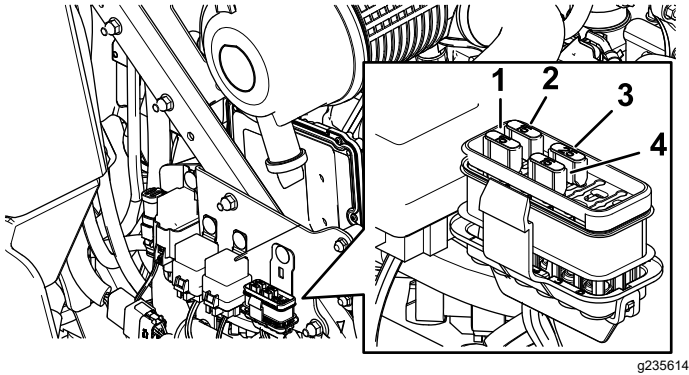

Figure 48
3. Install a new fuse (Figure 48).